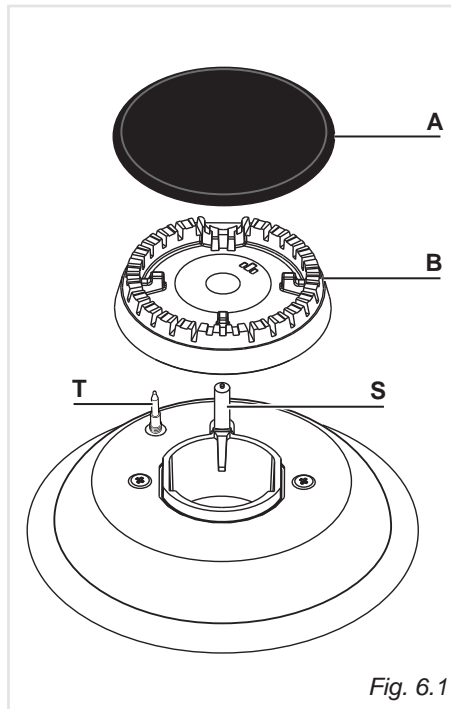

Fig. 6.1
- Check that the probe "T" (figs. 6.1, 6.3) next to each burner is always clean to ensure correct operation of the safety valves.
- Check that the electrode "S" (figs. 6.1, 6.3) is always clean to ensure trouble-free sparking.
It is very important to check that the burner flame spreader "B" and the cap "A" have been correctly positioned (see figs. 6.1 and 6.2). Failure to do so can cause serious problems.